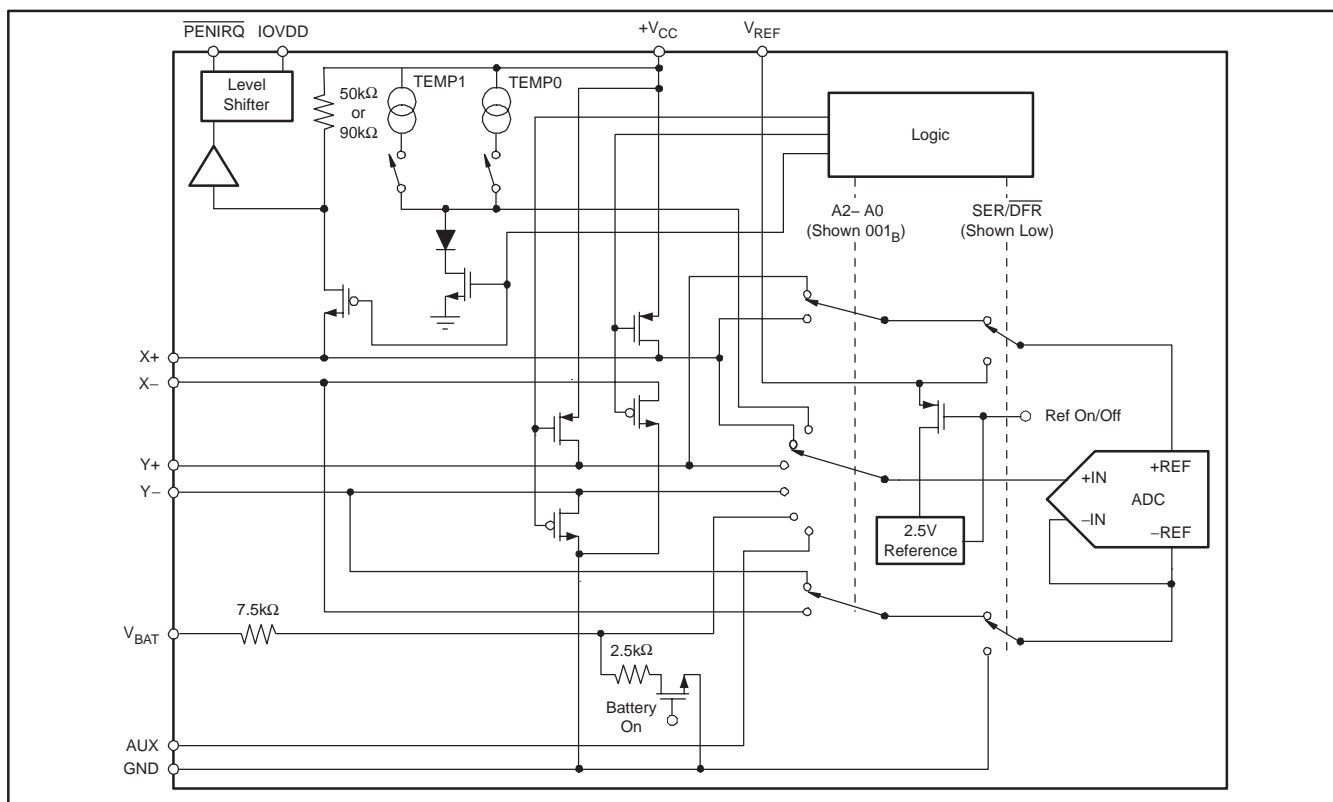

Figure 2. Simplified Diagram of Analog Input
Figure 2 shows a block diagram of the input multiplexer on the TSC2046, the differential input of the ADC, and the differential reference of the converter. Table 1 and Table 2 show the relationship between the A2, A1, A0, and SER/DFR control bits and the configuration of the TSC2046. The control bits are provided serially via the DIN pin—see the *Digital Interface* section of this data sheet for more details.
When the converter enters the hold mode, the voltage difference between the +IN and -IN inputs (shown in Figure 2) is captured on the internal capacitor array. The input current into the analog inputs depends on the conversion rate of the device. During the sample period, the source must charge the internal sampling capacitor (typically 25pF). After the capacitor is fully charged, there is no further input current. The rate of charge transfer from the analog source to the converter is a function of conversion rate.
The voltage difference between +REF and -REF (see Figure 2) sets the analog input range. The TSC2046 operates with a reference in the range of 1V to +VCC. There are several critical items concerning the reference input and its wide voltage range. As the reference voltage is reduced, the analog voltage weight of each digital output code is also reduced. This is often referred to as the LSB (least significant bit) size and is equal to the reference voltage divided by 4096 in 12-bit mode. Any offset or gain error inherent in the ADC appears to increase, in terms of LSB size, as the reference voltage is reduced. For example, if the offset of a given converter is 2LSBs with a 2.5V reference, it is typically 5LSBs with a 1V reference. In each case, the actual offset of the device is the same, 1.22mV. With a lower reference voltage, more care must be taken to provide a clean layout including adequate bypassing, a clean (low-noise, low-ripple) power supply, a low-noise reference (if an external reference is used), and a low-noise input signal.
**Addressing**—The next three bits (A2, A1, and A0) select the active input channel(s) of the input multiplexer (see Table 1, Table 2, and Figure 2), touch screen drivers, and the reference inputs.
mode, the converter reference voltage is always the difference between the VREF and GND pins (see Table 1 and Table 2, and Figure 2 through Figure 5, for further information).